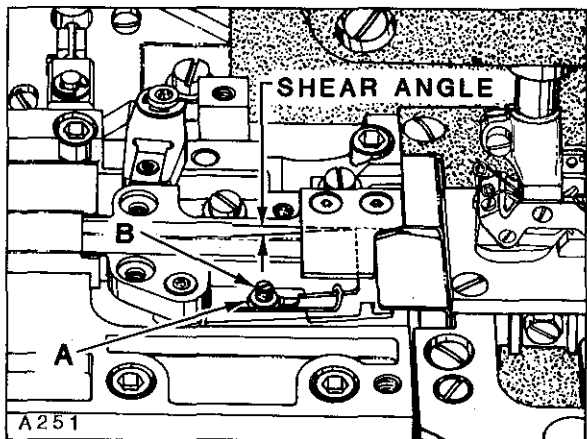

Fig.29
Adjustment of shear angle can be made by loosening nut (A, Fig. 29) and turning screw (B) clockwise (a small amount at a time) while manually operating knife lever (C), continuously checking with a piece of thread to see if knives are cutting. As soon as the knives fail to cut thread and the shear angle is zero, turn screw (B) counterclockwise approximately 1/4 turn and lock with nut (A). Check cutting action of knives when air motor is operating.
**CAUTION!** Turning screw (B) clockwise to an EXTREME may cause damage to "AIR-KLIPP" Chain Cutter assembly.